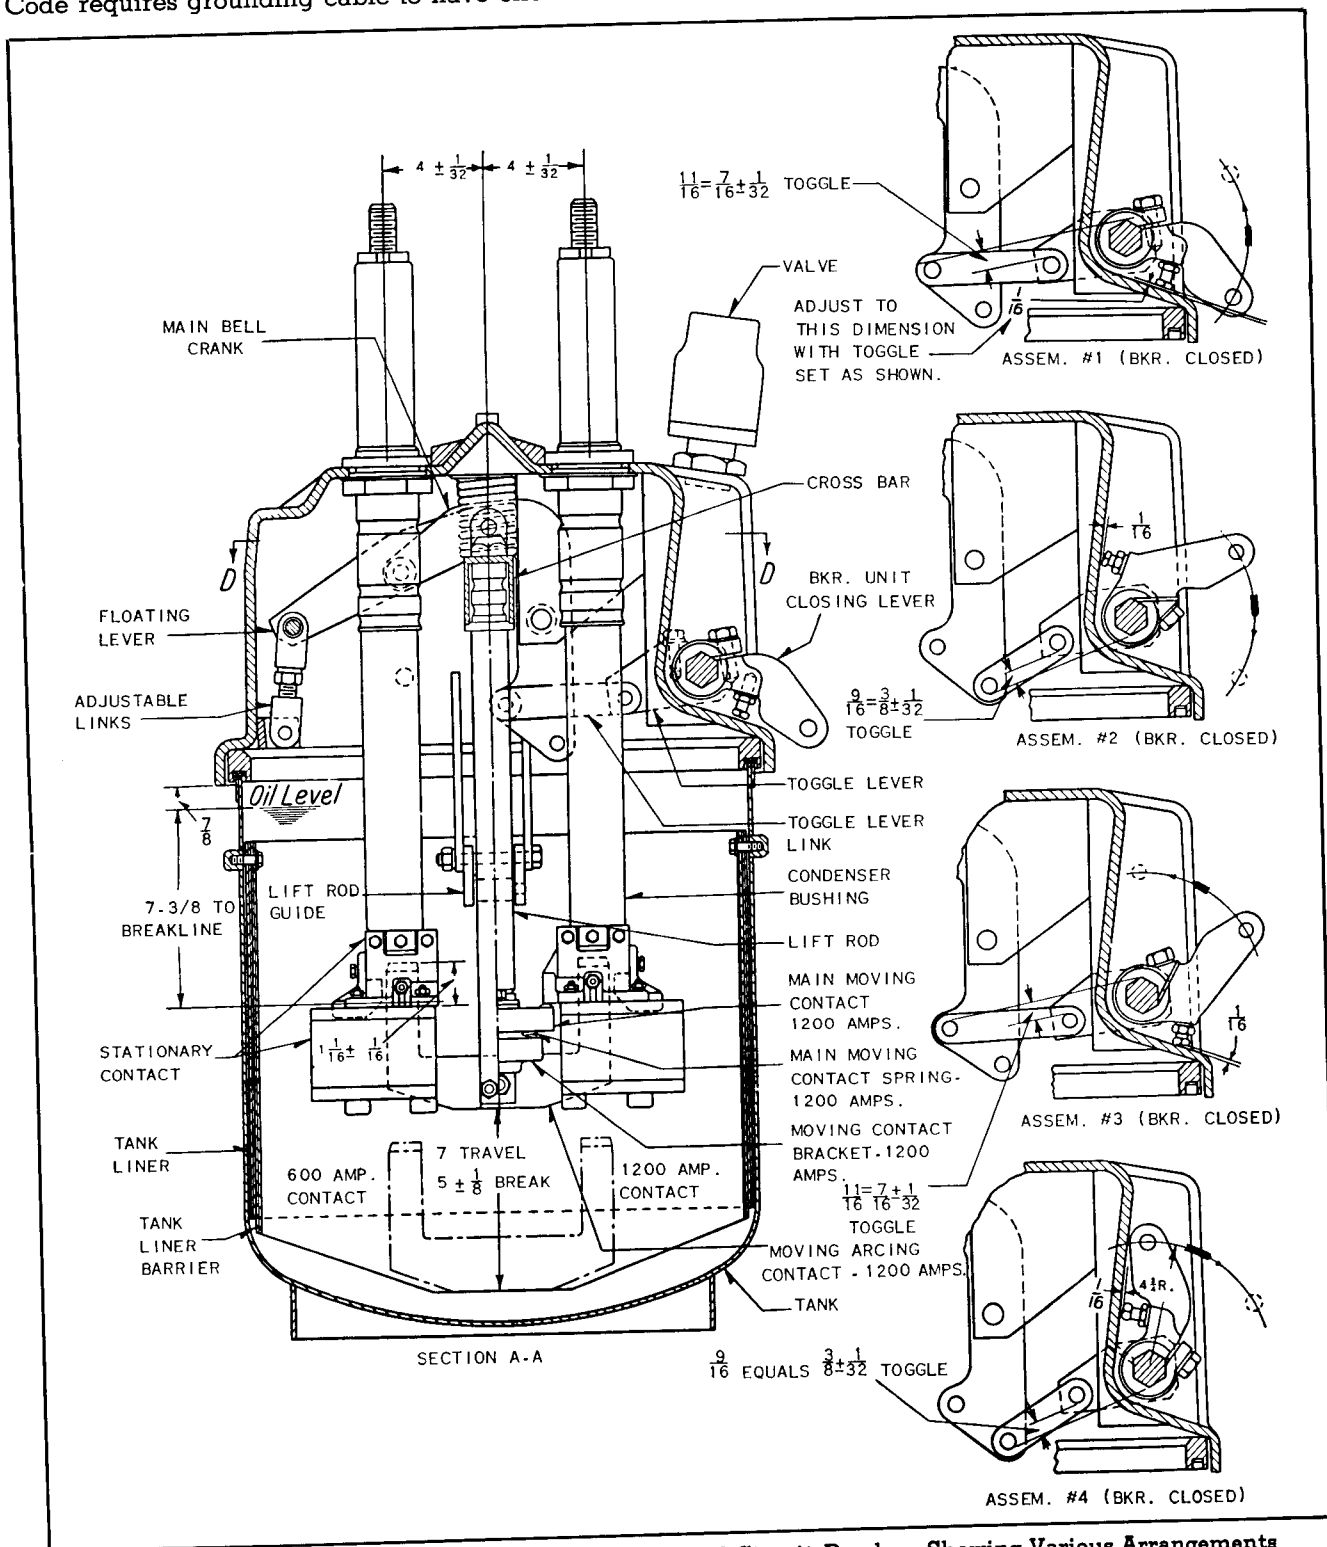

FIG. 2. Cross Section of Types B-20-B and 138-B-250 Oil Circuit-Breakers Showing Various Arrangements of Toggle Lever and Link Assembly
The main contacts of the 1200-ampere capacity breaker (Figure 2) are adjustable by turning the bracket up or down on the lift rod. With the breaker in the closed position the distance between the contact cross bar and cross bar bracket should be $\frac{1}{8}$ to $\frac{5}{32}$ inch. It is important that this dimension be maintained.
When the breaker unit and its operating mechanism are shipped separately, it is important that the operating rod between the two units be properly adjusted. The adjustment should be made, so that there is a full $\frac{1}{16}$ inch clearance between the operating lever and the breaker top, when the breaker is fully closed and latched. See Fig. 2.
7. Inspect the oil regularly and after severe short-circuits. If it shows signs of moisture, carbonization or dirt, filter and retest it before replacing it in service. See that the oil level in the tanks is maintained at the proper height. See Fig. 2.
Breaker Mechanism. The toggle mechanism is designed for reversible operation, so that the direction of operation can be changed by a simple change in the location of the toggle pin which is located in the toggle lever. No adjustment is required on the toggle setting as this is set at the factory. This setting is such that with the breaker in the closed position there is a clearance of $\frac{1}{16}$ inch between the operating lever set screw and the breaker top. The toggle is set $\frac{3}{8}$ inch off center. See Fig. 2.